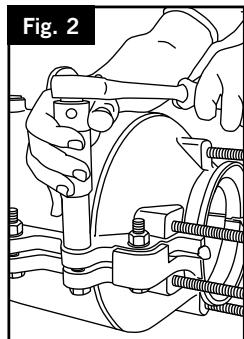

Fig. 2
2) Remove the nuts and washers from the bolts on both sides of the clamp shells. The bolts will retain to one of the clamp shells. (FIG 2)